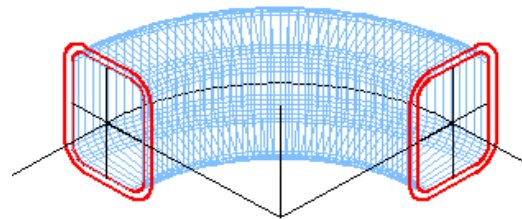

Figure Step 14
Step 14 Enter the REVSURF command, as shown below, to construct the inside of the tube around the first corner. First change the layer of the straight tube surfaces constructed in Steps 11 to 13 to layer: Surface Off. (Figure Step 14)